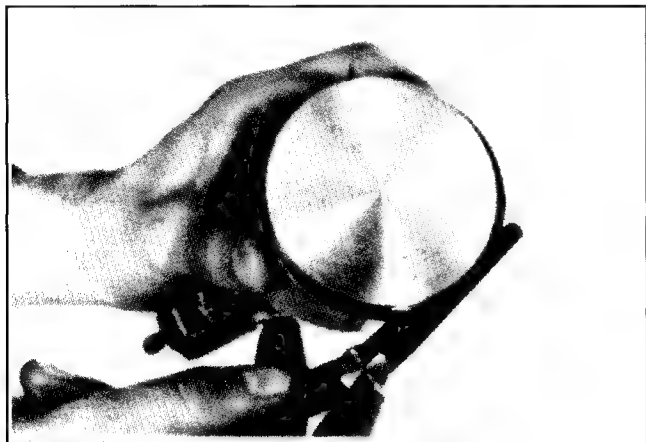

Figure 10-10. Measuring Piston Ring Side Clearance.
5. After installing the new compression (top and middle) rings on piston, check piston-to-ring side clearance. Top ring side clearance is **0.040/0.085 mm (0.0016/0.0033 in.)** for TH16 and TH18. Middle ring side clearance is **0.030/0.080 mm (0.0012/0.0031 in.)** for TH16 and **0.030/0.076 mm (0.0012/0.0030 in.)** for TH18. If side clearance is greater than specified, a new piston **must** be used. Refer to Figure 10-10.